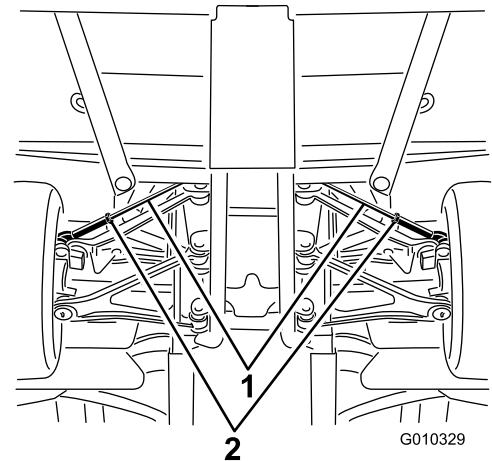

Figure 60
- A. Loosen the jam nut at the center of the tie rod (Figure 60).